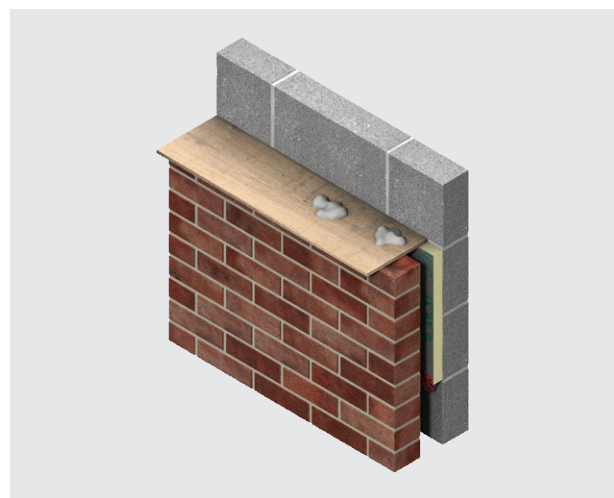

Figure 7 - Use of a cavity board to protect the cavity and insulation board top edge
- Use of a cavity batten or cavity board is recommended to protect board edges and maintain a clear cavity (see Figures 7 & 8 or refer to BBA Certificate 14/5133 or NSAI Agrément Certificate 03/0196).